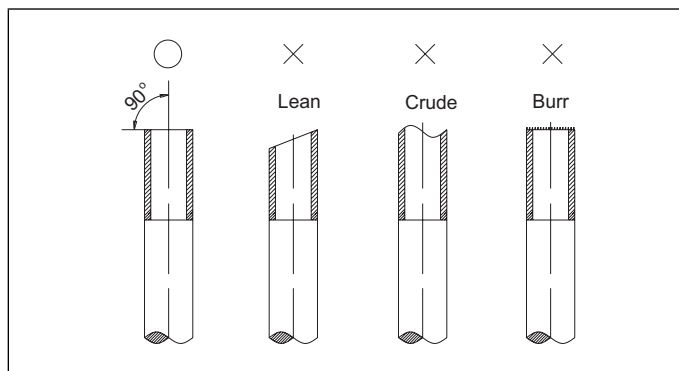

Figure 26. Cutting Pipe
4. Cut the selected pipes with a pipe cutter. Make the cuts flat and smooth as illustrated in "Figure 26. Cutting Pipe".